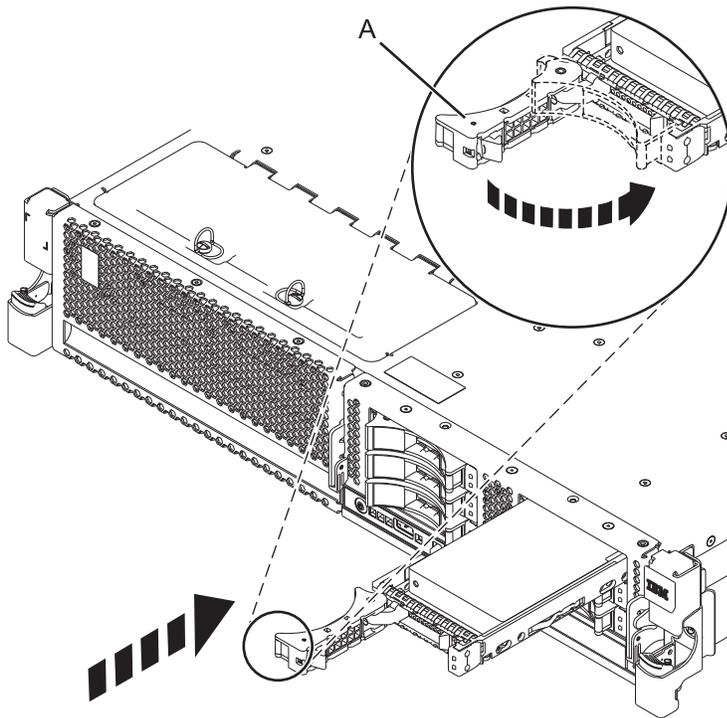

Figure 36. Installing a disk drive in the 8231-E2B, 8231-E1C, or 8231-E2C
11. When the service indicator starts flashing, slide the disk drive all the way into the system or expansion unit, and push the disk drive handle (A) in until it locks, as shown in Figure 36.